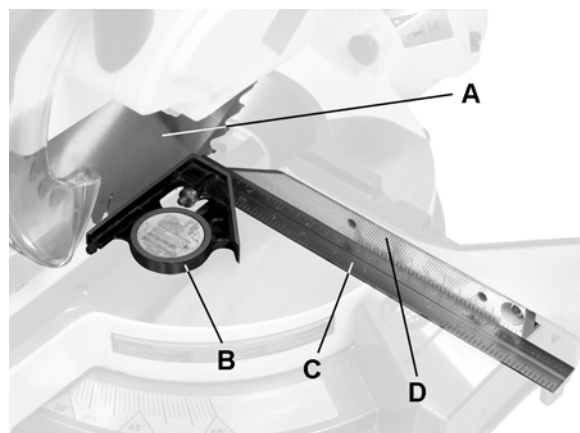

Figure 17
3. Using a *square*, lay the heel (B, Fig. 17) of the square against the *blade* (A) and the *ruler* (C) against the *fence* (D).